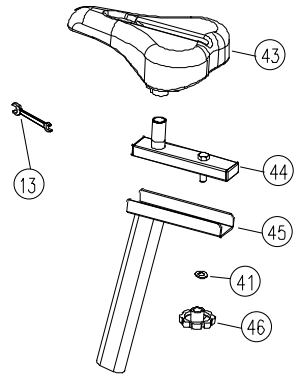

Figure 10
10. Fit the Rear Seat Telescopic Tube Assembly (Part 45), Seat Sliding Tube Assembly (Part 44) and Seat Cushion (Part 43) together using the M10 hollow star knob (Part 46). The seat can slide forwards and backwards to adjust the position. Tighten the Seat Cushion (Part 43) to the Seat Sliding Tube Assembly (Part 44) in a clockwise direction with the 13×15 open-end wrench (Part 13), as shown in Figure 10.